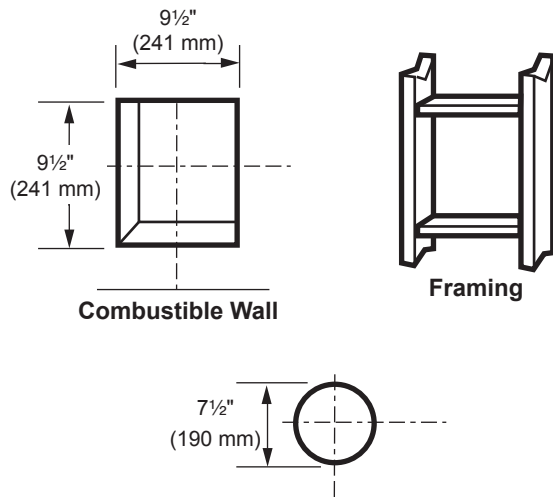

Figure 26 - Exterior Wall Framing Dimensions for 4 x 6^{5/8}" or 4" x 7" Venting
- Combustible Exterior Walls:** Cut a 9½"H x 9½"W (241 x 241 mm) square hole through the exterior wall frame. *Figure 26*
- The center of the hole should align with the center line of the horizontal rigid vent pipe end. Allow 1/4" minimum rise per foot. *Figure 26*